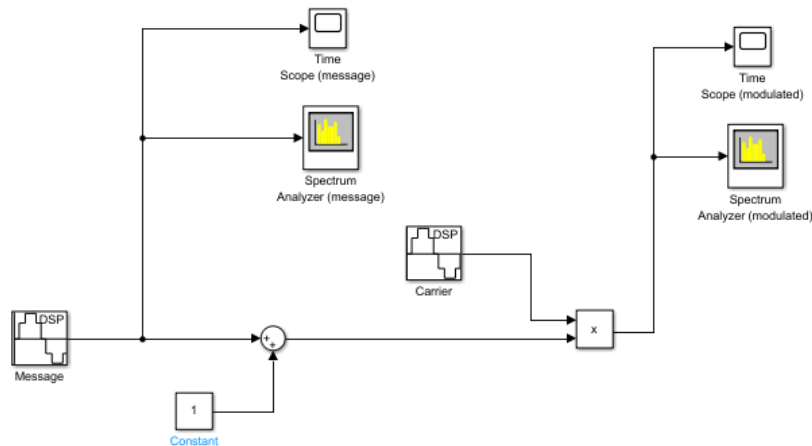

Figure 22: Amplitude modulator with message & carrier waves
9. Add a “Product” block to the model and multiply the output of the sum block and the carrier wave. This amplitude modulates the wave. Your model should now look like the model in Figure 22.